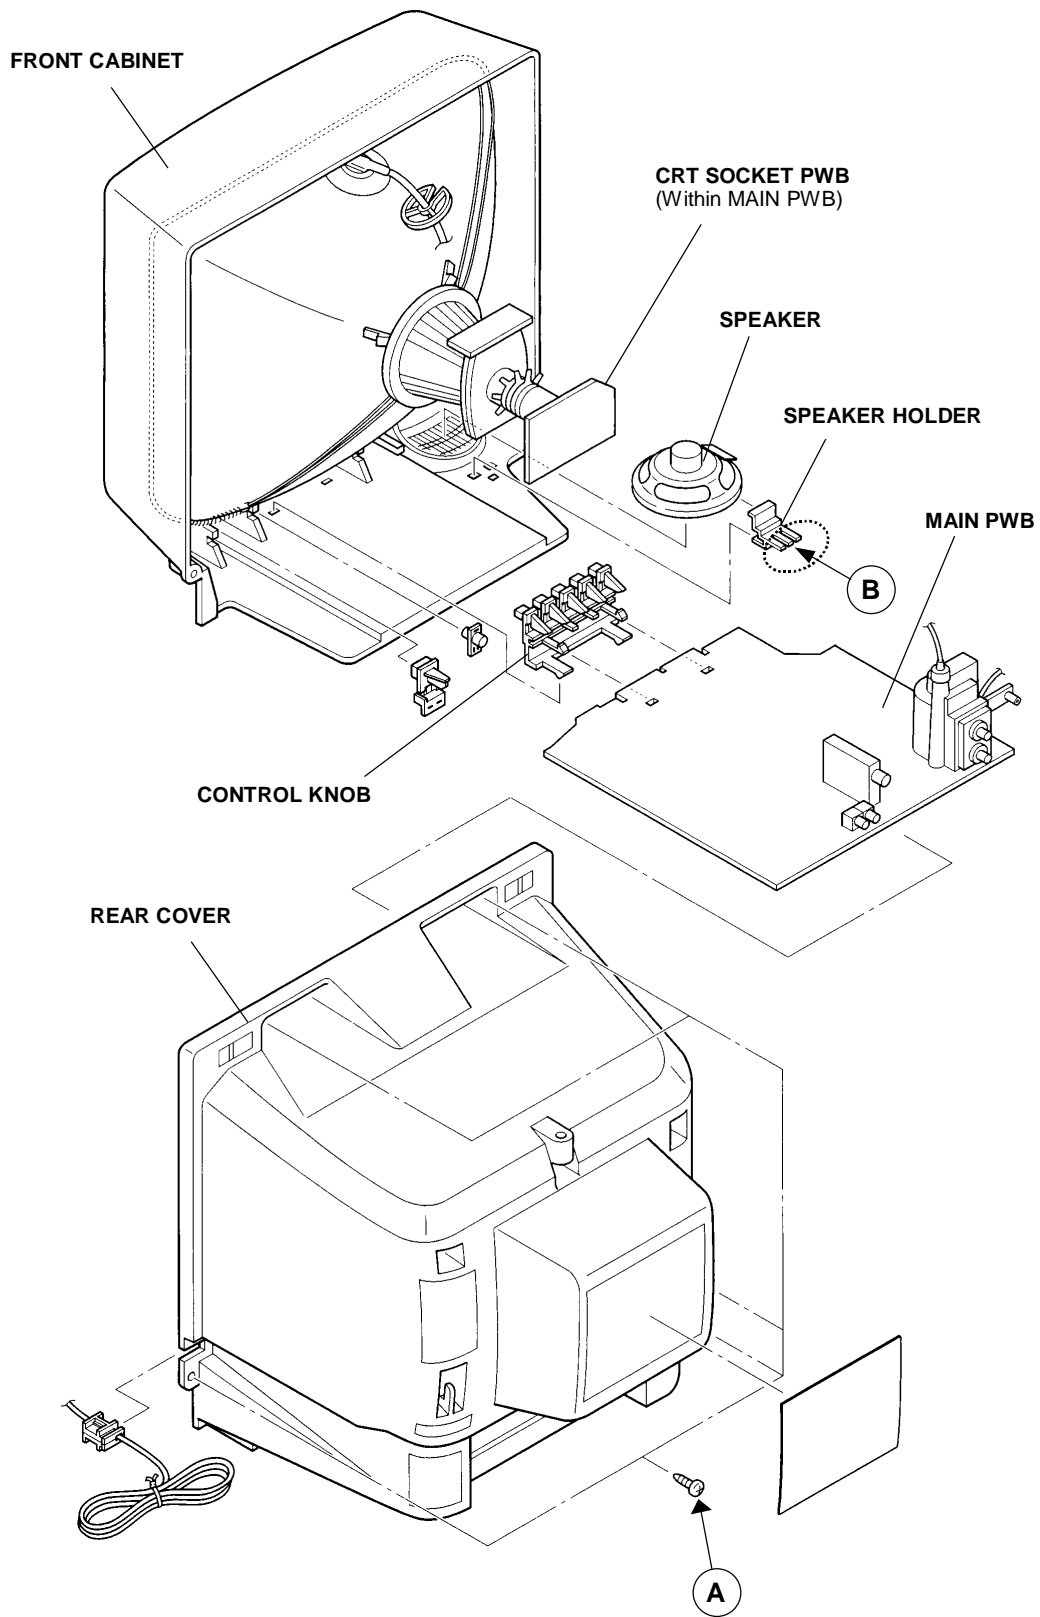

Fig.1
2. Remove the 5 screws marked (A) as shown in Fig.1.
<p>(4) System constant check and setting</p> <ol style="list-style-type: none"> 1) Press SLEEP TIMER key and, while the indication of "SLEEP 0 MIN." is being displayed, press DISPLAY key and VIDEO STATUS key on the remote control unit simultaneously. 2) The SERVICE MENU screen of Fig.1 is displayed. 3) While the SERVICE MENU is displayed, again simultaneously press the DISPLAY and VIDEO STATUS keys to display the Fig.2 SYSTEM CONSTANT screen. 4) Refer to the SYSTEM CONSTANT table and check the setting items. Where these differ, select the setting item with the MENU UP/DOWN key and adjust the setting with the MENU LEFT/RIGHT keys. (The letters of the selected item are displayed in yellow.) 5) After adjusting, release the MENU LEFT/RIGHT key to store the setting value. 6) Press the EXIT key twice to return the normal screen. 	 <p style="text-align: center;">Fig.1</p>
<p>(7) SERVICE MENU setting Verify what to set in the SERVICE MENU, and set whatever is necessary.(Fig.1) Refer to the SERVICE ADJUSTMENT for setting.</p>